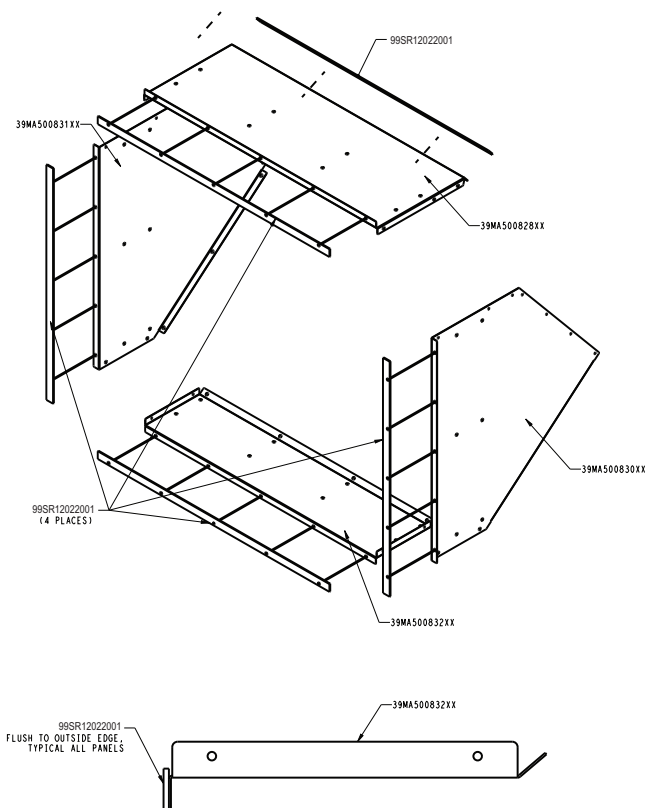

Fig. 76 — Installing the Gasket
5. Install gasket flush to each panel flange (top, bottom and sides) as shown below. See Fig. 76.